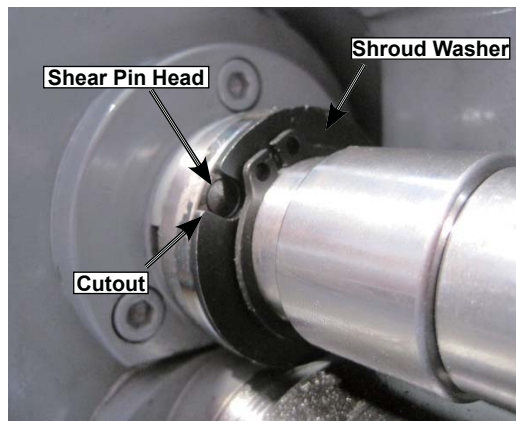

Figure 104. Shroud washer / pin alignment.
3. Rotate the shroud washer so the cutout lines up with the shear pin head, as shown in Figure 104.